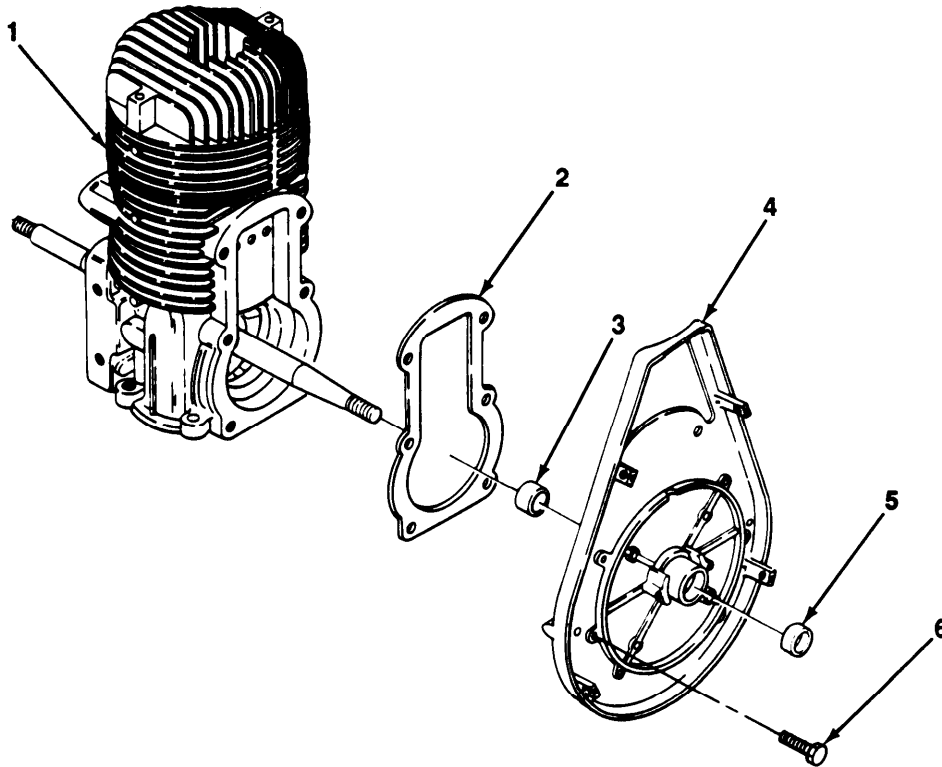

Figure 6-7. Crankshaft Support Replacement.
**Refer to Figure 6-7, *Crankshaft Support Replacement* for steps b and c.**
- b. Remove six screws (6), crankshaft support (4), and gasket (2) from cylinder (1). Discard gasket.
- c. Remove seal (5) and bearing (3) from crankshaft support (4). Discard seal.
Refer to Figure 6-7, *Crankshaft Support Replacement*, for steps i and j.